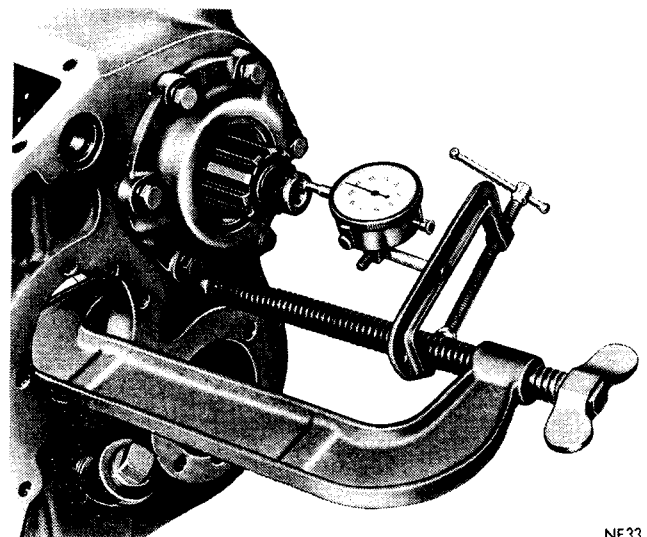

Fig. 8—Checking End Play (Input Shaft)
(1) Using a suitable sleeve, install input shaft front bearing against shoulder at front end of input shaft, with shielded side of bearing toward inside of transfer case.
(2) Install front bearing on input shaft with shielded side against shoulder.
(3) Start input shaft into case. Mount sliding gear, spacer and drive gear (with bushing on shaft).
(4) Tap input shaft into position using a suitable sleeve against inner race of front bearing.
(5) Position original shim pack plug .010 inch or more to make sure there is endplay in the assembly. Install front cover and tighten cap screws.
(6) Place thrust washer on shaft and install rear bearing with shielded side toward inside.
(7) Position a new gasket and attach the power take off (or cover, if used) to rear of case. Tighten cap screws.
(8) Mount a dial indicator on the unit (Fig. 8). Set the stem against front end of input shaft and check amount of endplay in the assembly. **Remove enough shims from under bearing cap to arrive at an adjustment of .003-.005 inch endplay.**
(9) Reposition bearing cap, insert cap screws and tighten as specified. Remove power take off for convenience in handling the transfer case.